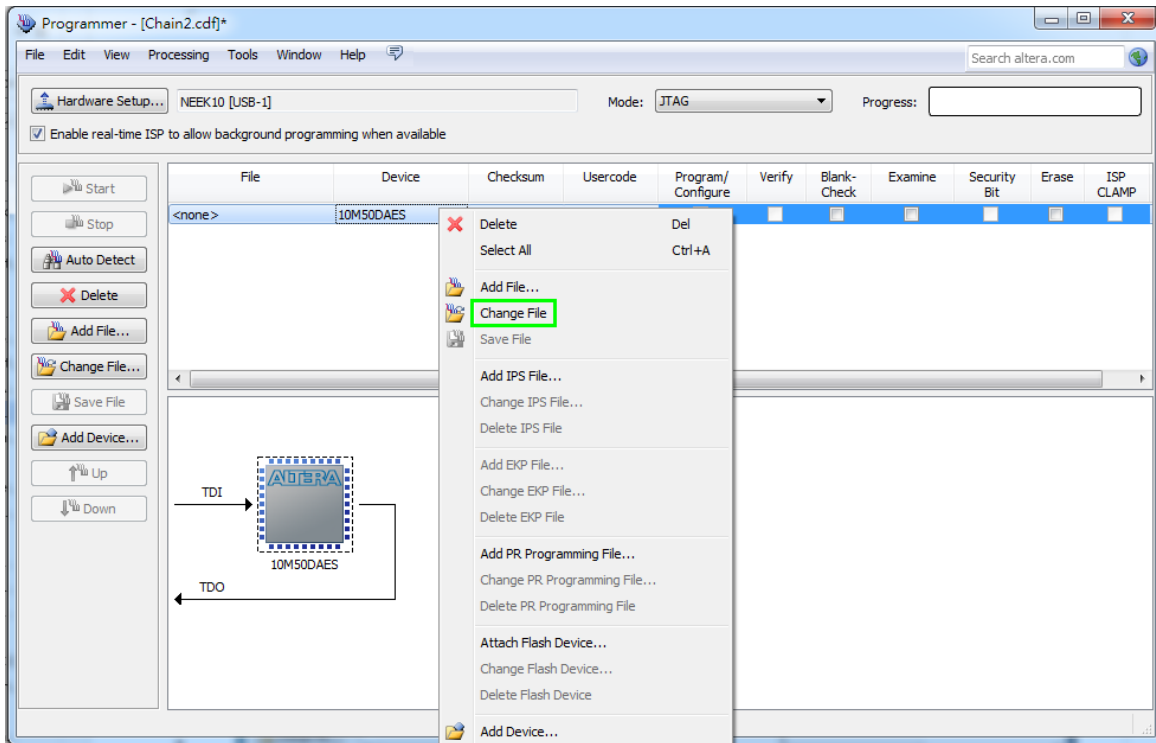

Figure 3-5 Open the .sof File to be Programmed into the FPGA Device
- Right click on the FPGA device and open the .sof file to be programmed, as highlighted in **Figure 3-5**.